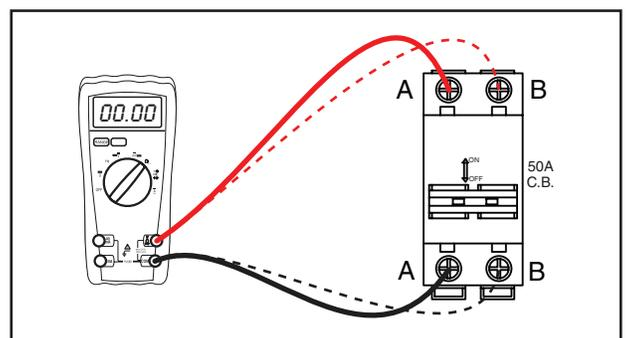

Figure 6-7. – 50 Amp Breaker Test Points
If a breaker is suspected to have failed, it can be tested as follows (see Figure 6-7):
3. With the generator shut down, connect one meter test lead to a one terminal of the breaker and the other meter test lead to the other terminal. See Figure 6-7.